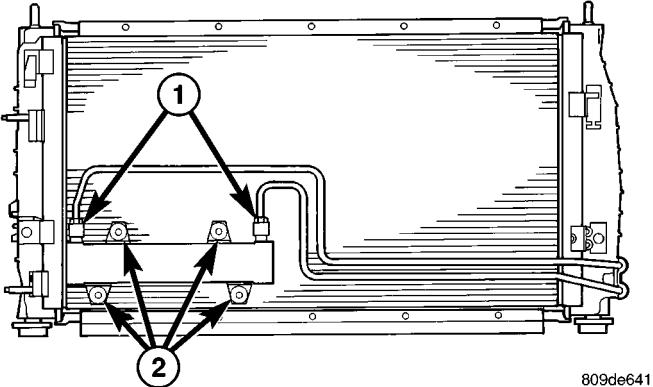
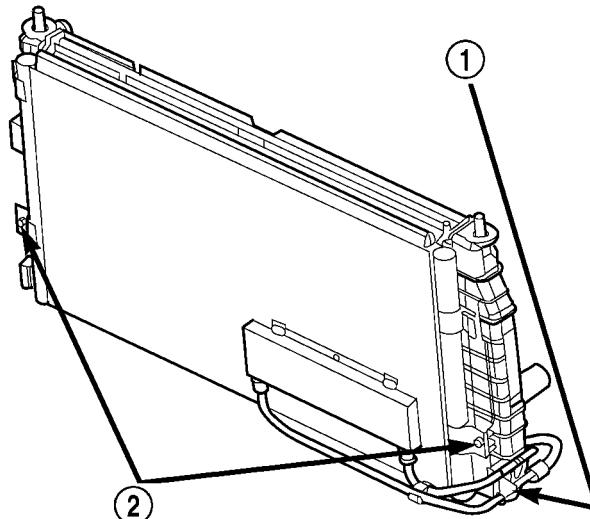

Fig. 2 TRANSMISSION OIL COOLER
Fig. 3 A/C CONDENSER TO RADIATOR
- (1) Disconnect negative cable from remote jumper terminal.
- (2) Remove the radiator upper support (Refer to 23 - BODY/EXTERIOR/GRILLE OPENING REINFORCEMENT - REMOVAL).
- (3) Raise vehicle on hoist.
- (4) Remove right and left front wheels.
- (5) Remove front fascia (Refer to 13 - FRAMES & BUMPERS/BUMPERS/FRONT FASCIA - REMOVAL).
- (6) Disconnect the hoses connecting to the external cooler.
- (7) Remove the radiator side air shields.
- (8) Remove the screw attaching the cooler line support bracket and remove the bracket.
- (9) Cut-off the cooler to condenser attaching straps (Fig. 2).
- (10) Remove the transmission oil cooler and lines (Fig. 2).
- (1) Remove the bolts attaching the A/C condenser to the radiator (Fig. 3).
- (2) Lift A/C condenser up to disengage from upper retainers on radiator.
(3) Reposition the A/C condenser to allow access to condenser rear surface.
(4) Remove the previously cut-off cooler retaining straps.
(5) Position and install the new retaining straps in the same locations on the condenser.
(6) Reposition A/C condenser on the radiator upper retainers.
(7) Install the A/C condenser mounting bolts and tighten to 5 N·m (45 in. lbs.) (Fig. 3).
(8) Install the foam pads on the retaining straps
(9) Position the transmission oil cooler on A/C condenser by guiding the retaining straps through the cooler mounting holes (Fig. 2).